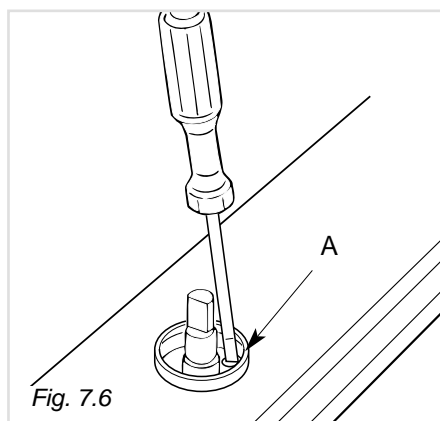

Fig. 7.6
**On gas valves provided with adjustment screw on the valve body** (fig. 7.6):